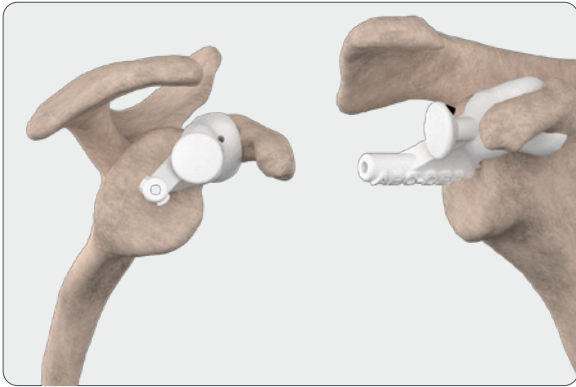

Figure 1
The preoperative planning is carried out based on computer tomography (CT) images uploaded to the web-based planning. The preoperative plan can be consulted at any time in the web-based planner or through the patient-specific surgery report. (Figure 1)